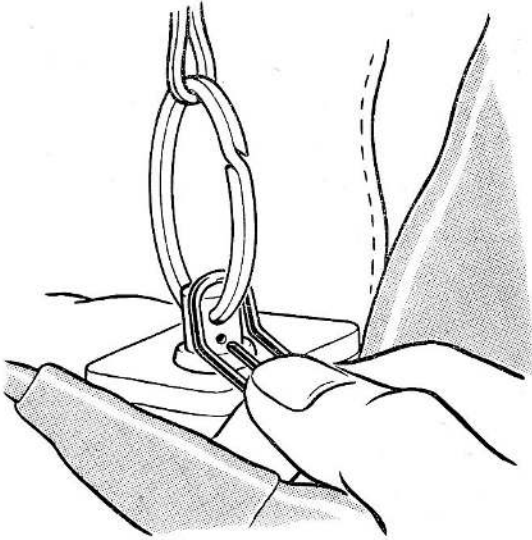
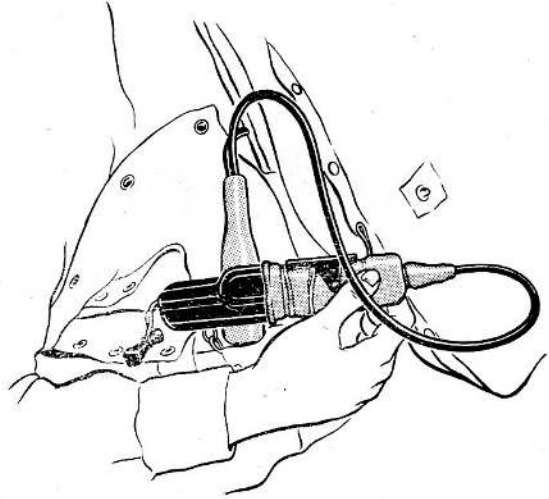

Fig. 15. Connecting the beacon to the battery switch pin—fifth stage
Fig. 16. Automatic extraction of battery switch pin as beacon is withdrawn
(6) Raise the switch plunger (fig. 15) by lifting the ring with a loop of cord and insert the switch pin into the hole which becomes exposed when the plunger is lifted. Fig. 16 shows how the switch pin is extracted when the beacon is withdrawn.
(7) Place the beacon in its stowage over the battery pocket, draw the edges